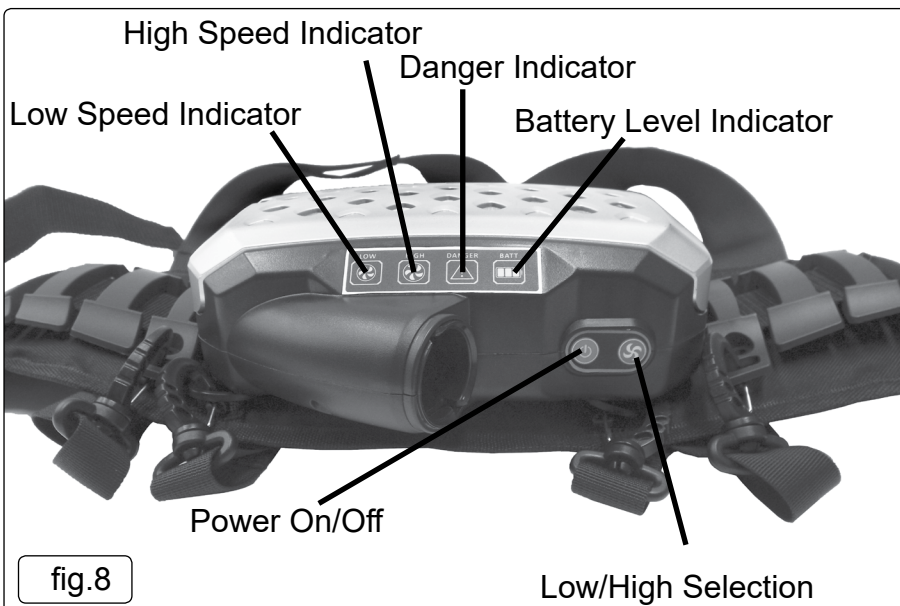

fig.8
**4.12. OPERATING THE CONTROLS (FIG.8)**